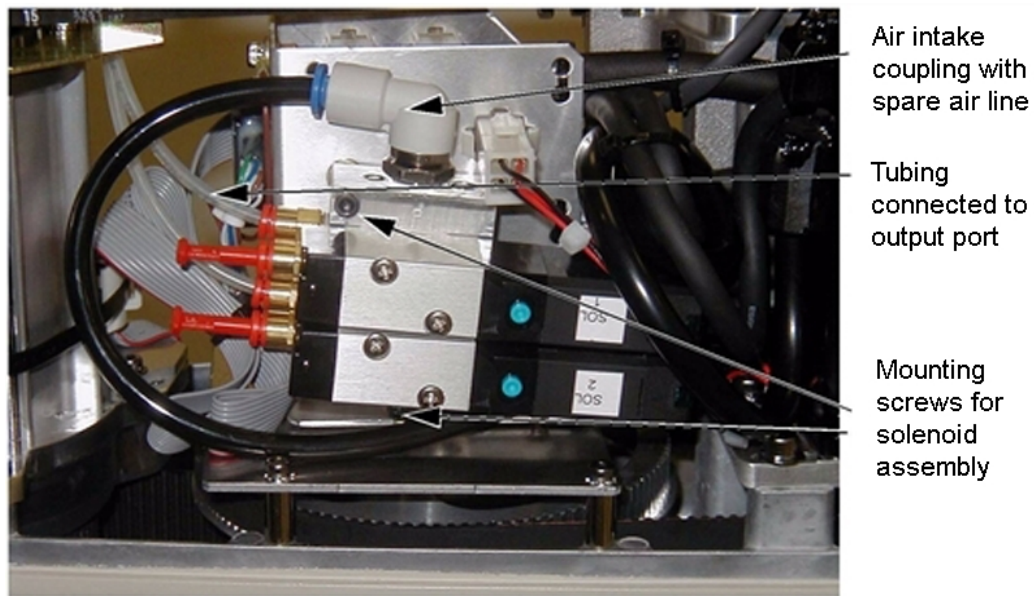

Figure 6-12. Solenoid Placement Using Mounting Hardware
5. Mount the solenoid manifold onto the bracket using the supplied M3 x 25 mm screws and washers (see Figure 6-12).